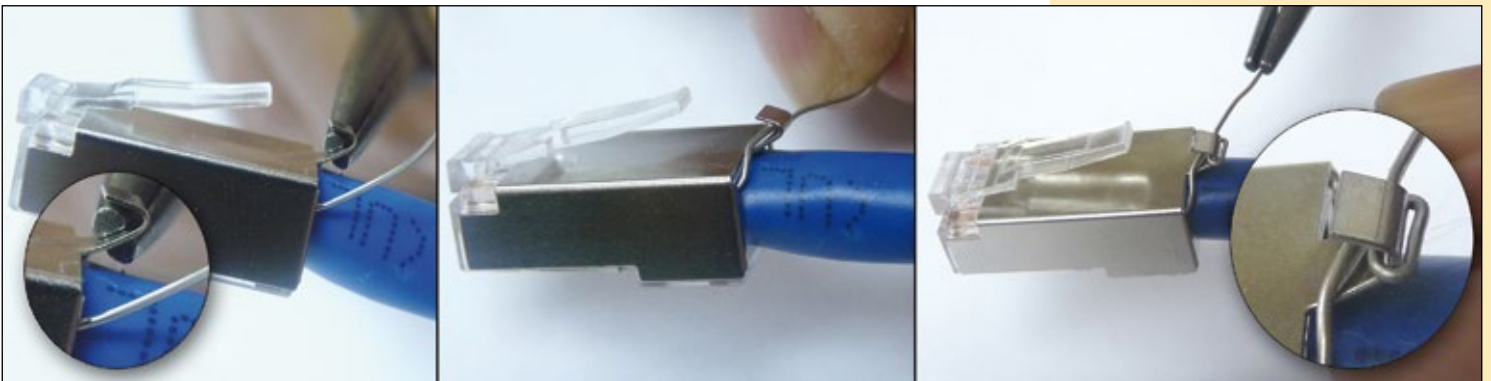

Figure 22
- 17 Proceed to twist the grounding tab slightly (about 30° over the plane of the plug) and to wrap 1 ½ turns of the drain wire on it as shown in the images of **Figure 22**.